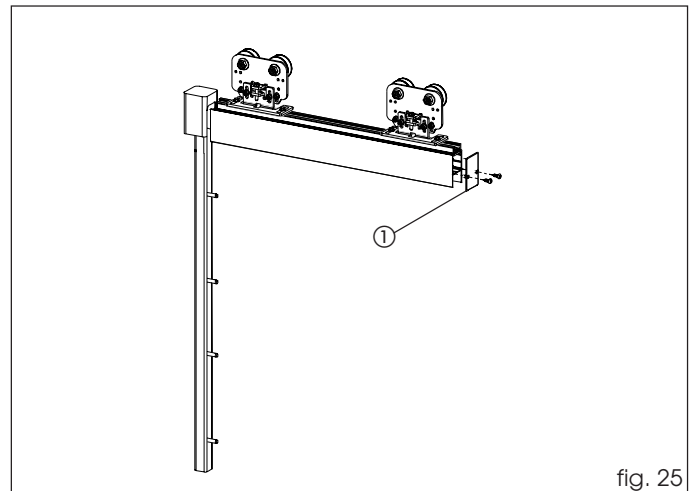

fig. 25
Fit the closure cover using the supplied screws (fig. 25 ref. ①). If necessary, depending on the dimensions of the leaf profile, break the cover in line with the partially drilled holes. The cover can close profile dimensions from 40 mm to 50 mm.